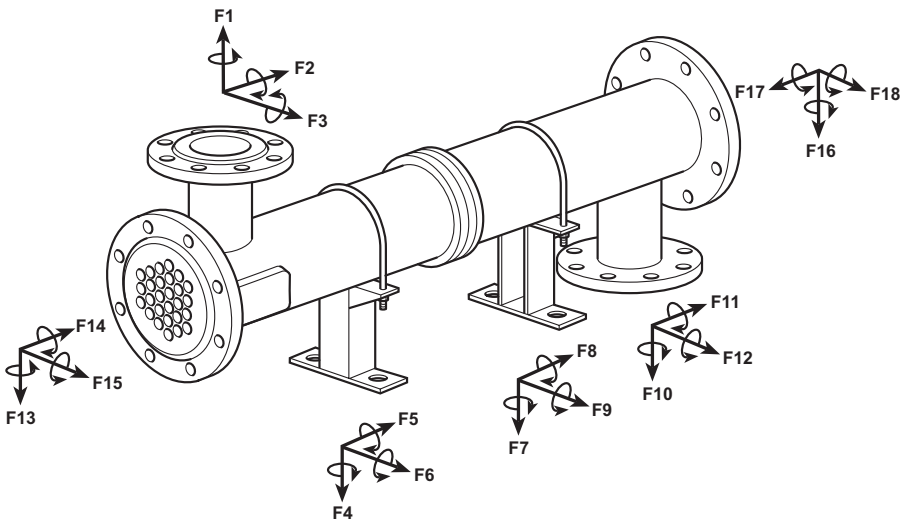

Fig. 8
- 4.10** Figure 8 illustrates the possible tubing connections. It is also acceptable to use large bended tubes or flexible connections.